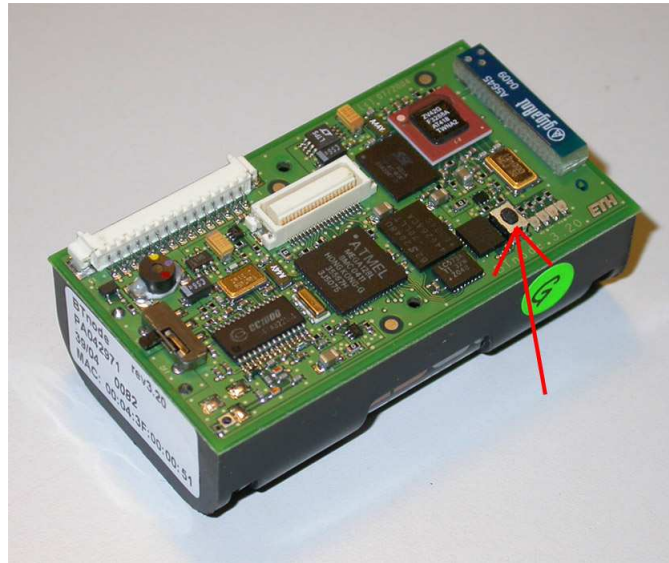

Figure 2.7: BTnode reset button
*If you can't find the reset button, see figure 2.7. If you get strange error messages while programming, try to disconnect and reconnect the USB cable.*